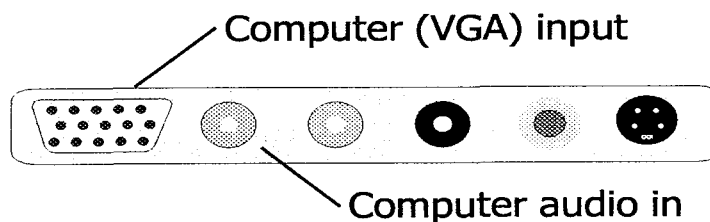

Figure 1: Mite-E-Lite II I/O Panel Computer Connection
8. The audio connection requires a cable from the computer audio out or headset out to the 3.5 mm audio jack located just to the right of the VGA cable connection (see Figure 1).
9. See "Getting Started Detail" on Page six (6) for more information.